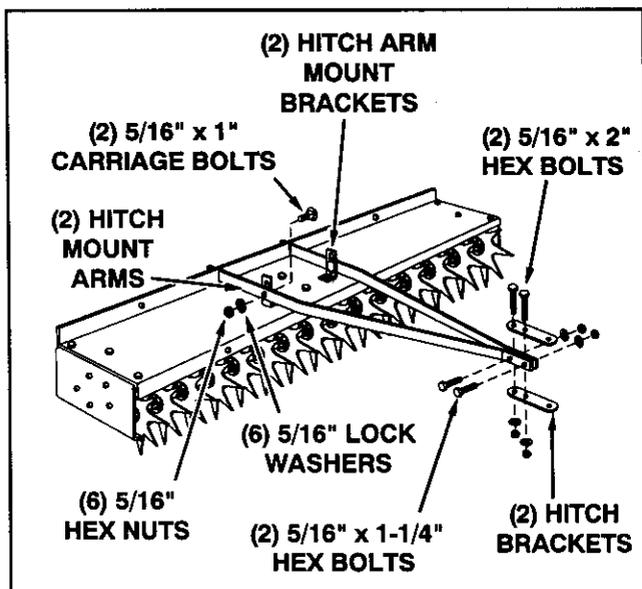

FIGURE 2
- Slide the two hitch mount arms through the slots in the rear flange of the spike shield. Fasten the arms to the outside of the mount brackets using two 5/16" x 1" carriage bolts, two 5/16" lock washers and two 5/16" hex nuts. See figure 2. **Do not tighten at this time.**
- Assemble the ends of the two hitch mount arms together using two 5/16" x 1-1/4" hex bolts, two 5/16" lock washers and two 5/16" hex nuts. See figure 2. **Do not tighten at this time.**
- Assemble the two hitch brackets to the top and bottom of the hitch mount arms using two 5/16" x 2" hex bolts, two 5/16" lock washers and two 5/16" hex nuts. The bolts should pass between the two bolts assembled in previous step. See figure 2. **Tighten all bolts at this time.**